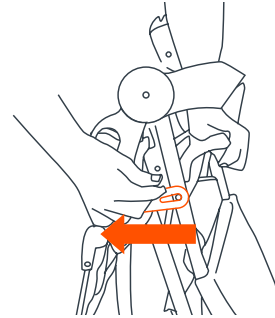

Fig. 19a
19) • Stand the stroller on the ground with all three wheels touching the ground. Release the folding latch, which is located on the right side (Fig. 19a).